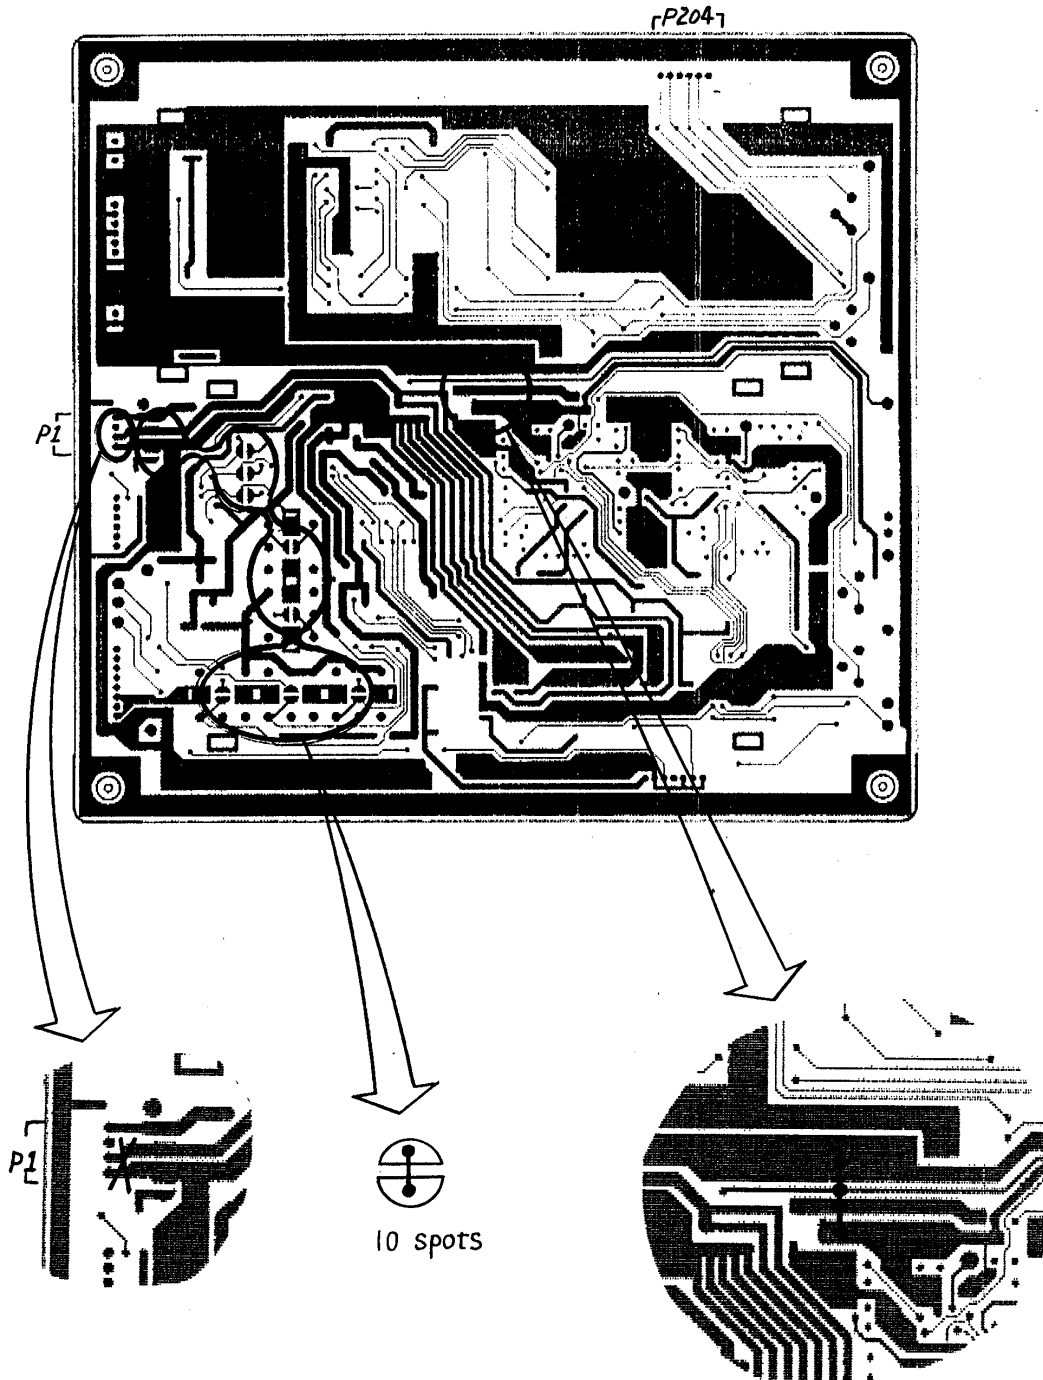

Fig 7
Assume that the PCB Assy stands upright with its P204 connector atop, foil pattern side facing operator. See Fig 7.
- 1.1 Cut foils which come out of the Pin 3 and Pin 4 of P1 connector. See Fig 7.
- 1.2 There are half moon shaped foils facing symmetric each other at ten spots. Bridge these foils facing direct with solder. See Fig 7.
- 1.3 Connect all four foils 5.0mm, 0.5mm, 2.0mm, 3.0mm wide each run horizontal together direct with peeling off the insulation resist on the spots. See Fig 7.